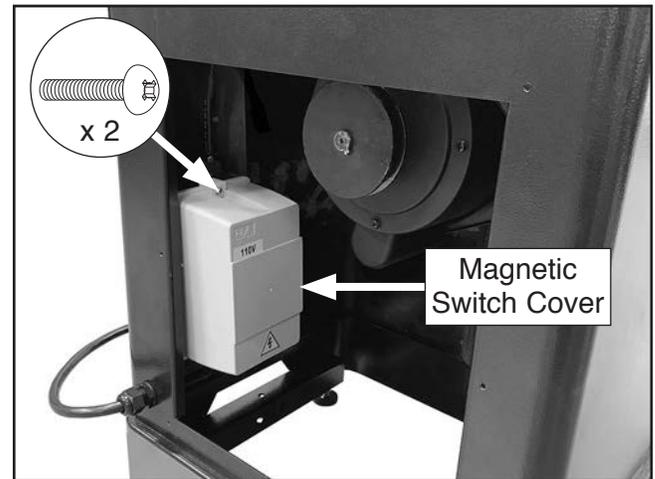

Figure 9. Magnetic switch cover location.
6. Loosen (2) Phillips head screws, then remove magnetic switch cover (see **Figure 9**).